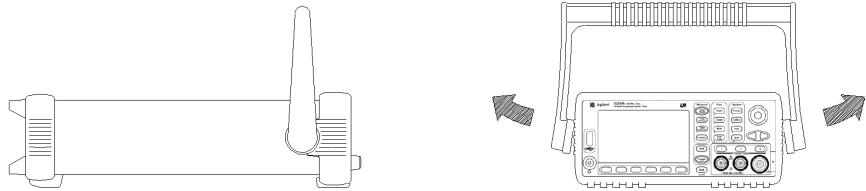

Figure 3-1. Handle Removal
- 2 Remove the handle by rotating it to the vertical position and pulling the ends outward as shown in Figure 3-1.